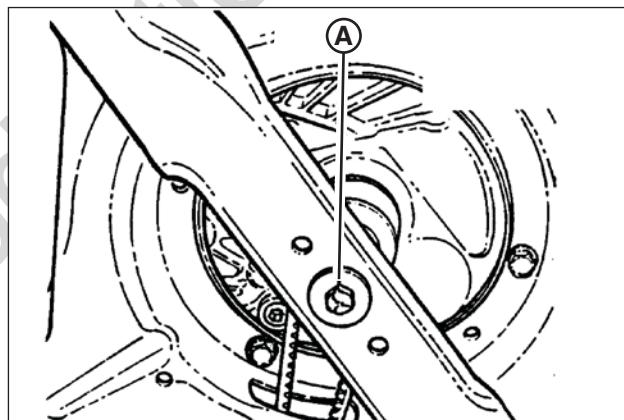

Figure 18: Tightening the blade cap screw
2. Tilt the mower up on its rear wheels for access to the blade cap screw (**A**, **Figure 18**). Do not tilt the mower with the spark plug or carburetor down.